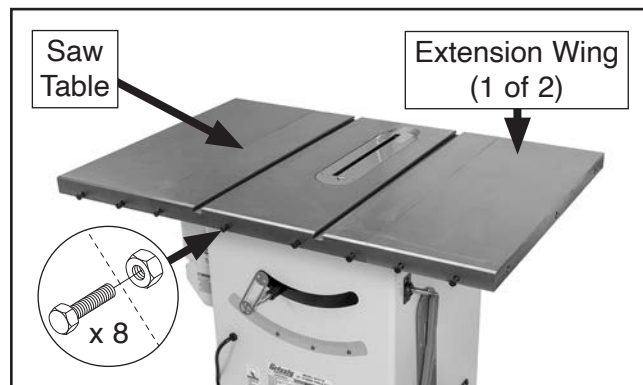

Figure 18. Location of front extension rail fasteners.
2. Install (8) M8-1.25 x 30 hex bolts and (8) M8-12 hex nuts from G0771Z inventory into saw table and extension wings, as shown in **Figure 18**.